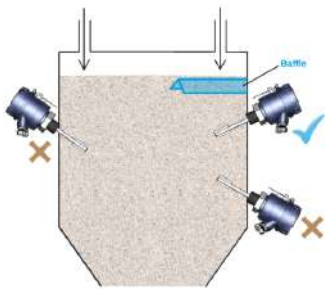

Figure 6: Provision of Baffle
- For side-mounting, provide a baffle to prevent the material from falling on the fork. Please refer to Figure 6.